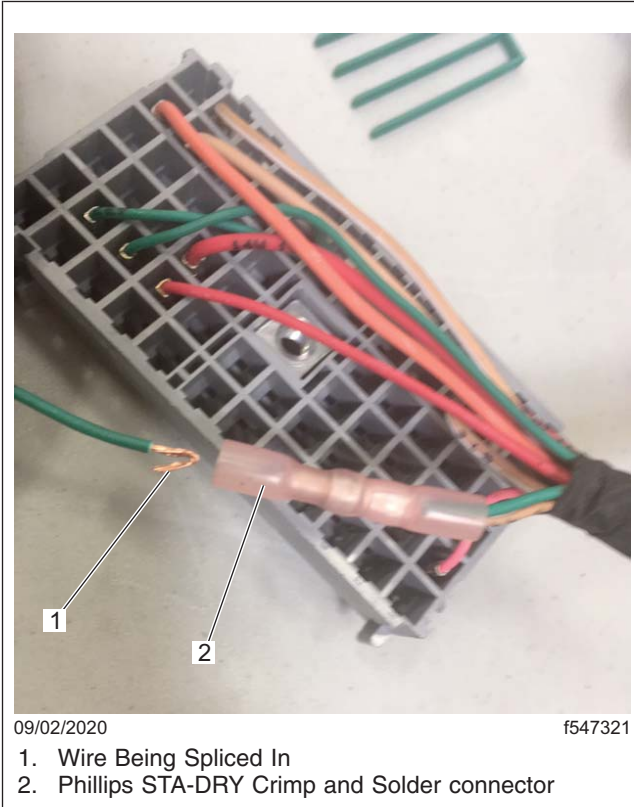

Fig. 8, Splicing Wire onto D2 and D12
15.5 Using the terminal and wire removed from cavity D12, strip the end 3/4 inch (19mm) and fold the stripped wire in half. Insert the wire into the properly sized Phillips STA-DRY Crimp and Solder connector, splicing it to the twisted D2 and D12 wires. Crimp and carefully apply heat with a heat gun to melt the solder and shrink the connector tube. See Fig. 8.